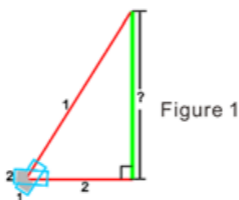

Figure 1
- 1: With reference to figure 1, press the  key until the  symbol is displayed.